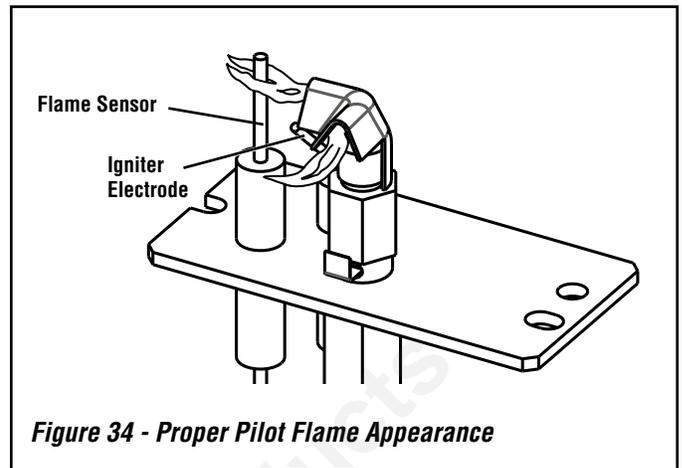

Figure 34 - Proper Pilot Flame Appearance
- Periodically inspect the pilot system for proper flame. Turn the pilot ON/Auto switch to the ON position. Ensure the igniter lights the pilot. The pilot flame should engulf the flame sensor as shown in **Figure 34**. See *Intermittent/Standing Pilot Mode* on **Page 24** for instructions on switching from intermittent ignition to a standing pilot.